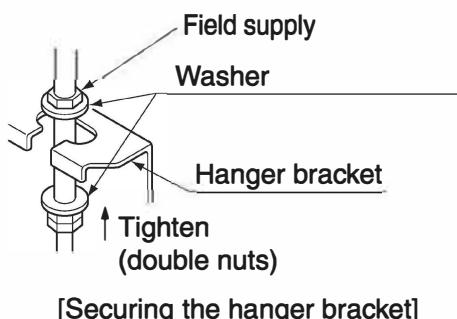

Fig. 10
- Attach the hanger bracket to the suspension bolt. Be sure to fix it securely by using a nut and washer (3) from the upper and lower sides of the hanger bracket. (Refer to Fig.10)